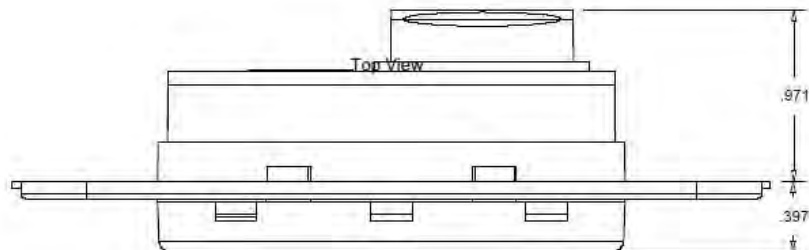

Figure 5 – EasyTouch Display Top View Mounting Dimensions
1. Choose a wall location that has adequate depth (at least 1⁷/₂₅ 4mm) behind the wall itself. See Figure 5 for the depth dimensions of the display.